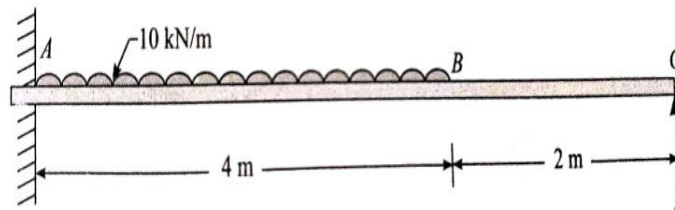

Figure 1.
1. A cantilever ABC is fixed at A and propped at C is loaded as shown in figure 1. Find the reaction at C. [14M]